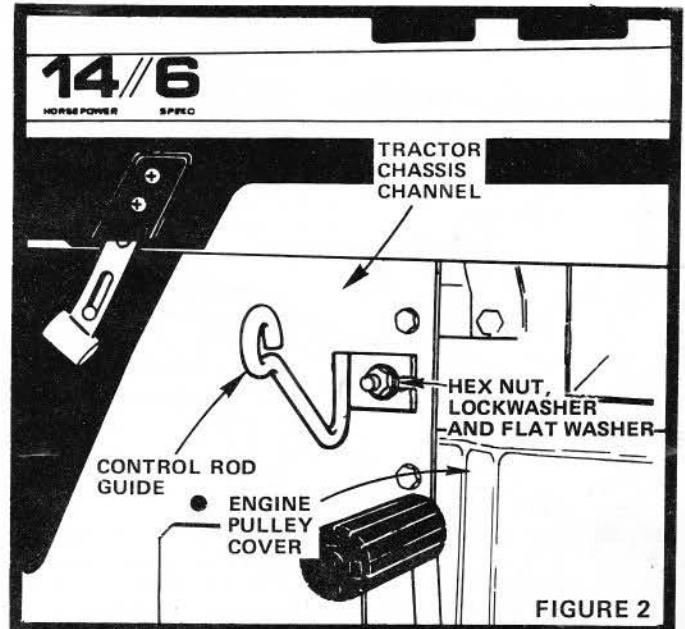

FIGURE 2
- a. Remove Engine Pulley Cover (Fig. 2).